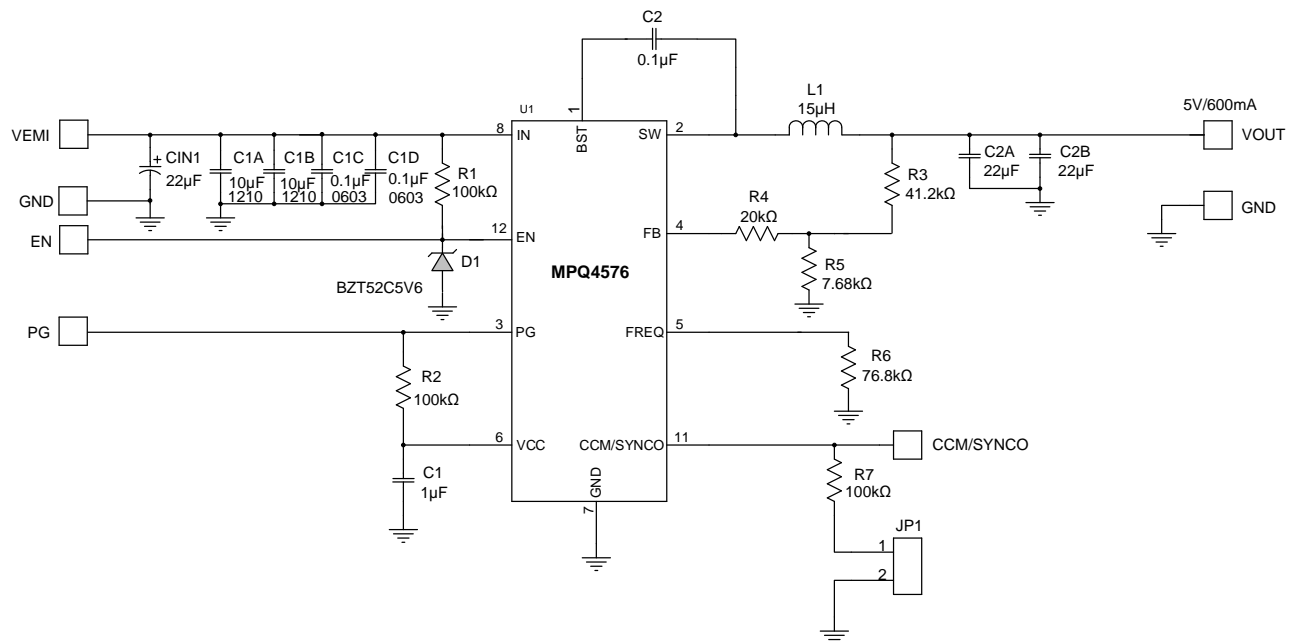

Figure 8: Typical Application Circuit
- 10) The recommended PCB layout is based on Figure 8 on page 30.